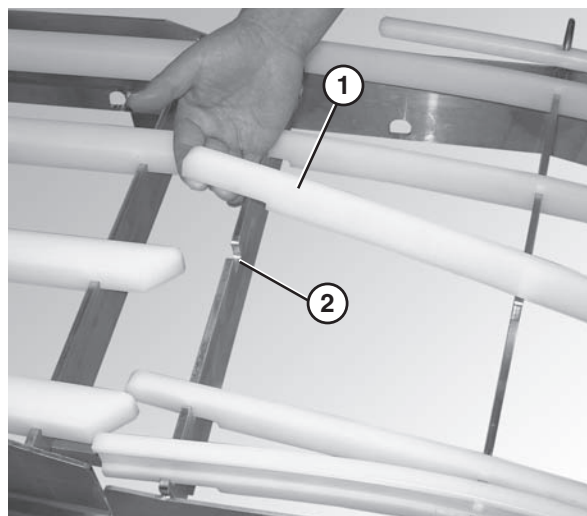

Figure 35
3. Insert the wear strips (Figure 35, item 1) into the appropriate slots in the frame (Figure 35, item 2), starting with the shortest wear strip on the inside of the curved section and working outward to the longest.